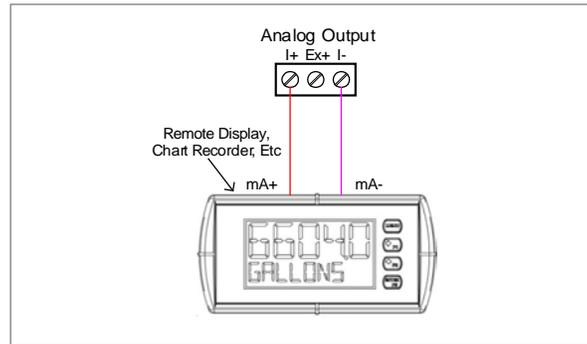

Fig 13: Active 4-20 mA Output Powered by Controller
- Figure 13 shows examples for isolated 4-20 mA transmitter output connections. Terminal connectors are labelled individually.